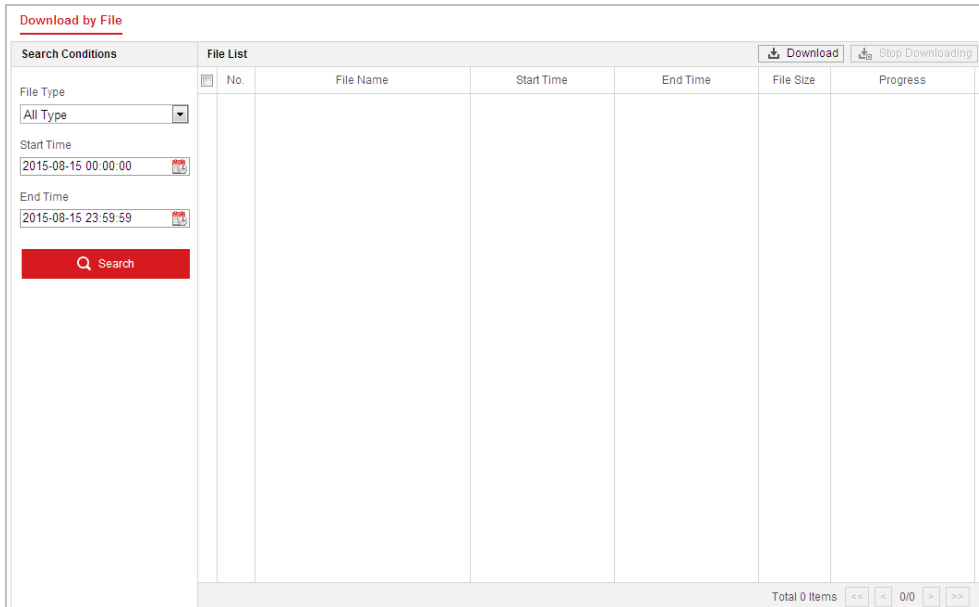

Figure 4-18 Video Downloading interface
1. Click . The pop-up menu is shown in Figure 4-18.